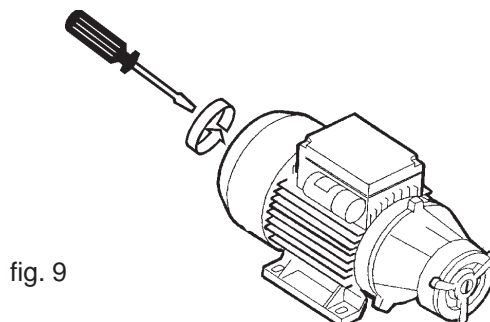

fig. 9
After periods of dishwasher inactivity and/or following repeated alarms (7) (see chap. 21.2), make sure the supplementary pressure increase pump rotates freely. To do this, operate by inserting a screwdriver in the special notch on the motor shaft, ventilation side (see fig. 9).